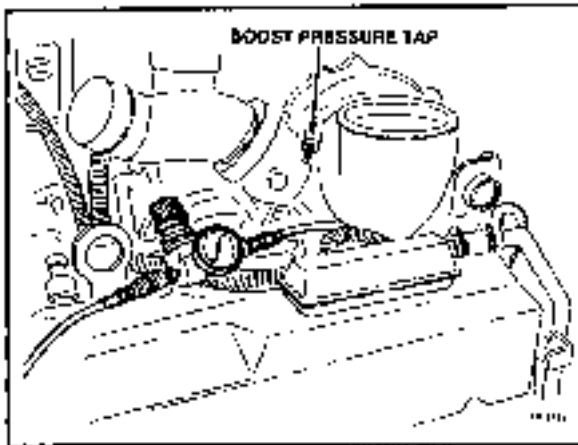

Figure 2.3-16. - Boost Pressure Tap Location and Air Regulator Connection
1. Remove actuator boost line from turbo compressor housing and connect an air regulator with a 0-60 PSI gauge to the actuator boost line. Figure 2.3-16.